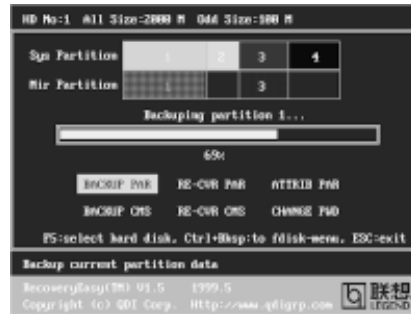

figure-4 Backup Partition
- a. During the process of partition backup or recovery, a guage will be shown as below, the backup or recovery speed is about 4-5Mbyte/s. See figure-4.